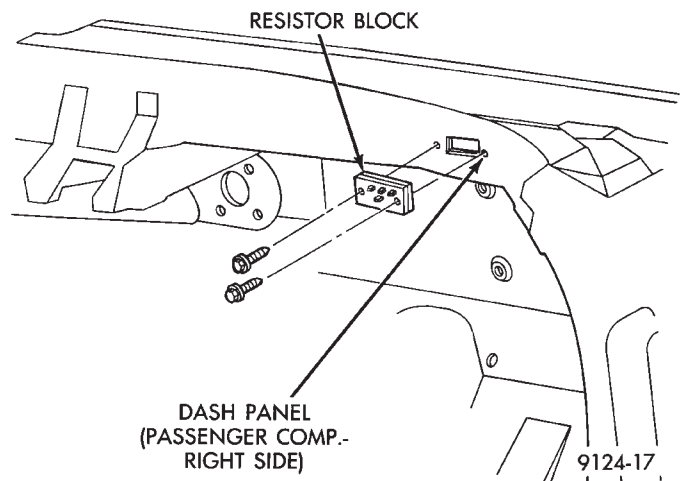

Fig. 3 Blower Resistor Block Location—AJ and AG Body
- (1) Remove the instrument panel glove box and door assembly. Refer to Group 8E Instrument Panel.
- (2) Remove security and lamp outage modules.
- (3) Locate the blower resistor block (Fig. 3). It is above and to the front of the glove box opening on the dash panel. Remove the wire connector.
- (4) Remove the two attaching screws at the resistor block.
- (5) Carefully pull the resistor block straight out from the cowl plenum opening and remove the resistor block from the vehicle.